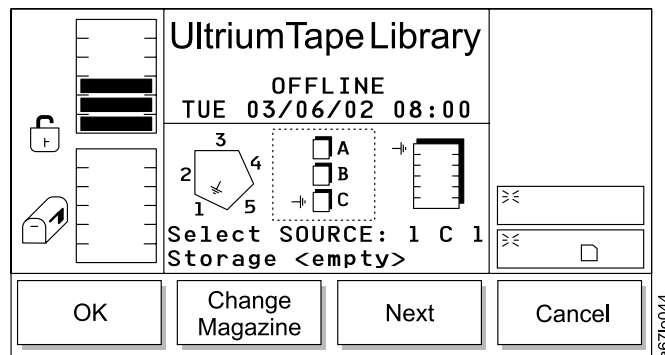

Figure 111. Change Magazine Dialog
- If **Next** is selected, the current source parameter changes from column to magazine and the Change Magazine Dialog displays (see Figure 111 on page 107).